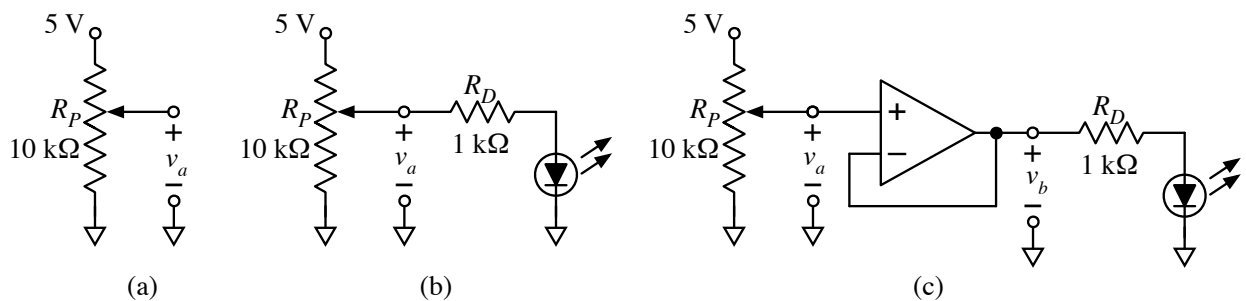

Figure 2. Various voltage divider circuits.
Wire up a potentiometer in a simple voltage divider configuration, as shown in Fig. 2(a).
- Attach an LED (any of the ones from your kit is OK) and a 1-k Ω current-limiting resistor as shown in Fig. 2(b). Measure v_a again. Can you explain the change? Re-adjust the potentiometer until $v_a = 2.5$ V. Disconnect the resistor/diode combination and measure v_a once more. Obviously, the voltage divider does not work as expected when a load is attached.
- Now insert a unity-gain buffer between the potentiometer and the LED/resistor pair as shown in Fig. 2(c). Use another amp from the LMC 660 chip that was used to build the amps in part A above. Before connecting the potentiometer to the amp input, adjust the setting until $v_a = 2.5$ V. Connect the amp and measure v_b . Try several other potentiometer settings, measuring v_a and then v_b . The benefit of the buffer should be obvious.